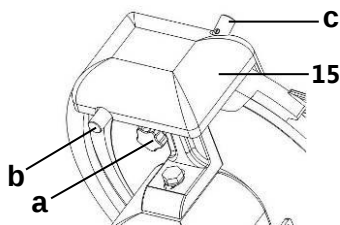

Fig. 10
- Hold the depressed button (b, fig. 10) of the sharpener on the back of the sharpener (1) and leave the device turned on for approx. 60 seconds, until the burr appears on the knife.
- **Unplug the device before cleaning operation (remove the plug!) and check whether the slice thickness adjustment (8) is set to “0”.**
- Move the carriage (6) towards the slice thickness adjustment (8) (**fig. 10**).